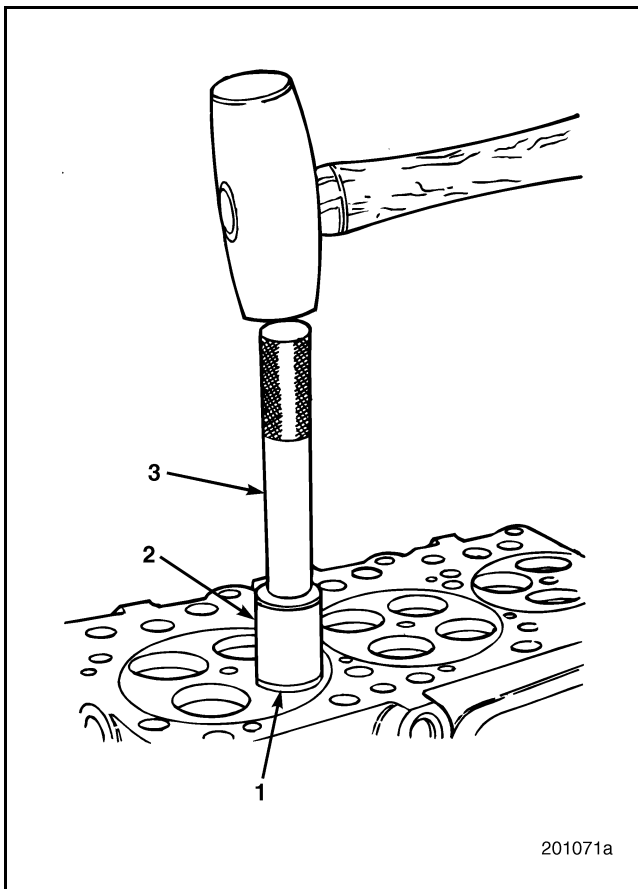

Figure 198 — Valve Seat Insert Installation
2. Position the valve seat insert (1) over the corresponding counterbore as shown in Figure 198. Install the inserts using valve seat insert installation set J 38586 (2). Use driver handle J 8092 (3) to drive the valve seat insert into the counterbore.